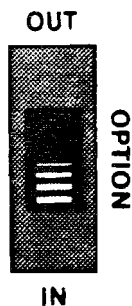

Figure 4 — Option Switch
- 2) **Standard option switches:** select IN or OUT as required (see Figure 4).
10.03 Options on a WECO unit may be selected by means of a jumper plug which is installed using an extractor tool. Transcom units utilize manually-operated slide switches (see Figure 4) for option selection. Transcom switches do not cover up letters or numbers when set OUT. If your CLRC is designed for WECO units, refer to Table D and make the equivalent setting on your Transcom unit.